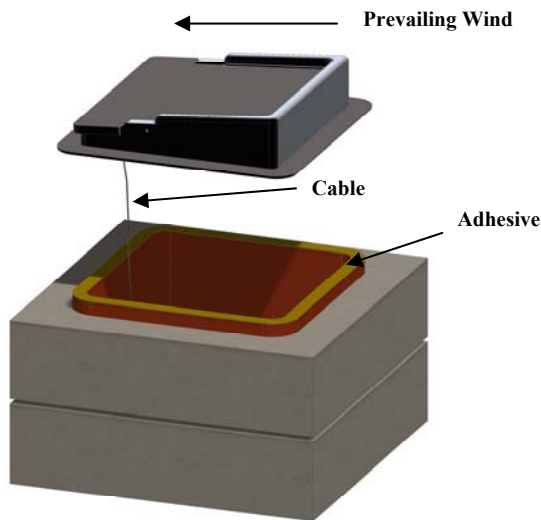

Figure 27. Install Top-Mount Damper
A. If installing a damper with this model fireplace, use a top-mount damper, and follow the instructions included with the damper. Properly orient the taller side of the damper with the prevailing winds in your area. See Figure 27.